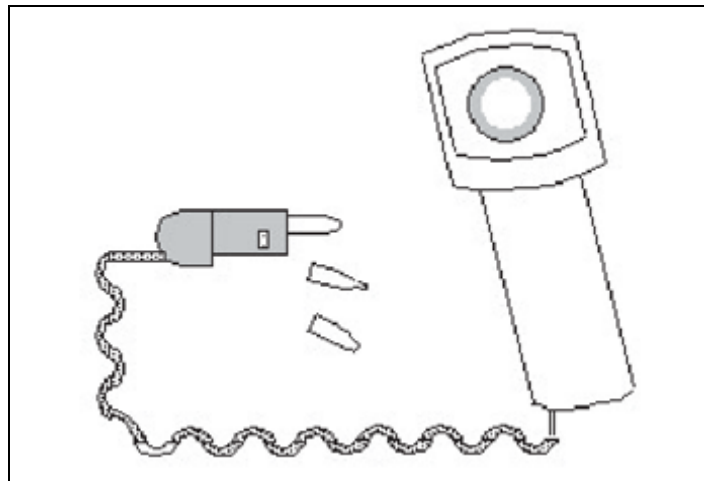

FIGURE 6M1-2. Fiber Optic Video Inspection System.
Step 1 - Using an approved Fiber Optic Video Inspection System (FOVIS) as shown in FIGURE 6M1-2, inspect the termini contained within the selected connector with the attached probe.